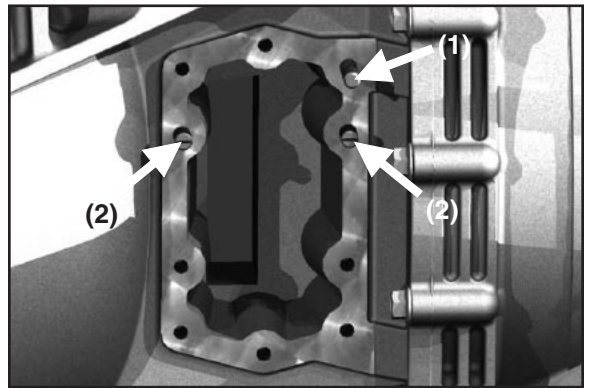

Fig. 8
8. Using a screwdriver, install the dowel pins (2) until they bottom out. Next install stud as shown. Tighten stud (1) securely and torque to 19-21 Lbs. ft. (**Fig. 8**) (Refer to page 19 for correct location and use).